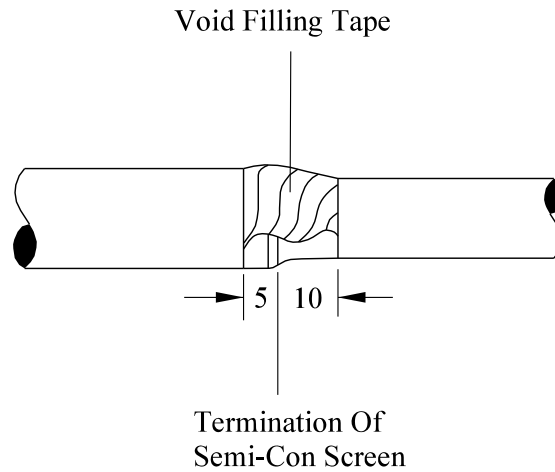

Fig 3
2.1 Semi-conducting Screens on Polymeric Cables – place two white Chinagraph marks on the semi-conducting screens, one at 5mm and the second at 15mm both points taken from the semi-conducting screen termination point – Fig 3 & 4.
2.2 Place a third white Chinagraph mark on the core insulation 10mm from the semi-conducting screen termination point – Fig 3.
A sloping profile is to be achieved from the semi-conducting screen termination to the core insulation, the tape being applied with a 50% stretch – Fig 3.